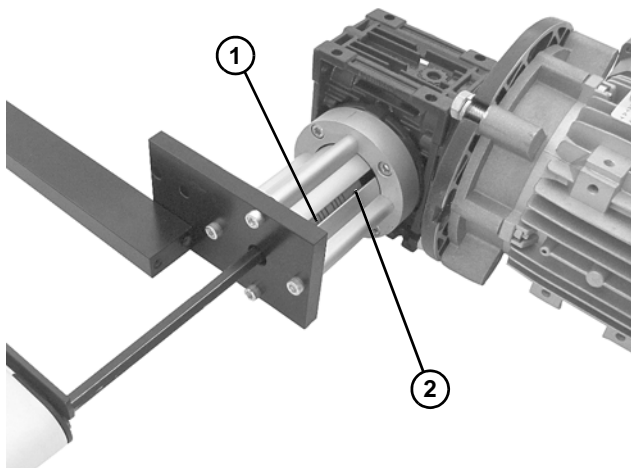
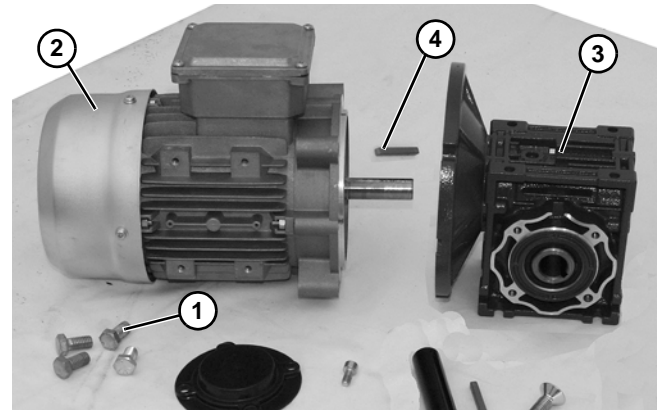

Figure 14
Figure 17
1. Remove fan cover (**Figure 17, item 2**) and rotate fan to align set screws (**Figure 14, item 1**) with access slot (**Figure 14, item 2**). Loosen set screws. Repeat for second set of screws.
4. Remove four screws (**Figure 17, item 1**). Detach motor (**Figure 17, item 2**) from gear reducer (**Figure 17, item 3**). Retain shaft key (**Figure 17, item 4**).
12. Apply anti-seize to motor shaft before assembling to gearbox. With key (Figure 17, item 4) in keyway, slide motor (Figure 17, item 2) and gear reducer (Figure 17, item 3) together. Install screws (Figure 17, item 1) and tighten.